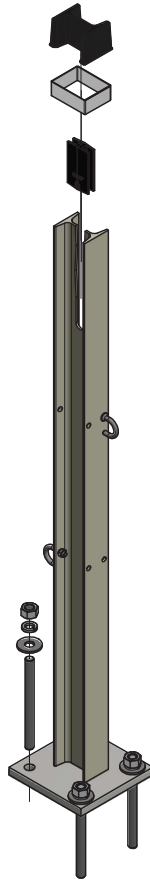

Figure 22
1. Drill four (4) 3/4" [19 mm] holes, 6" [150 mm] deep for the rod (PN: 005225G or PN: 006722G).
6. Place flat washer (PN: 003300G) and lock washer (PN: 003310G) between the hex nut (PN: 003361G) and the plate (See Figure 22).